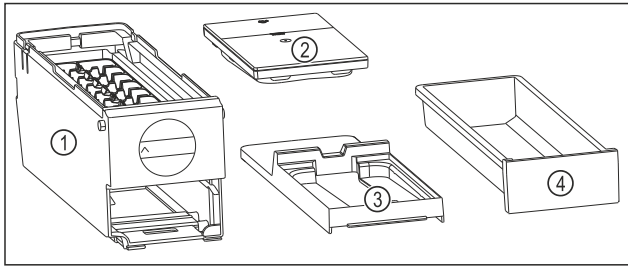

Fig. 93 Components of the EasyTwist-Ice
- ▷ EasyTwist-Ice is disassembled in four parts. (see Fig. 93)
- ▶ Only disassemble the EasyTwist-Ice into the illustrated components. (see Fig. 93)
- ▶ Clean the EasyTwist-Ice body Fig. 93 (1) as a complete unit.